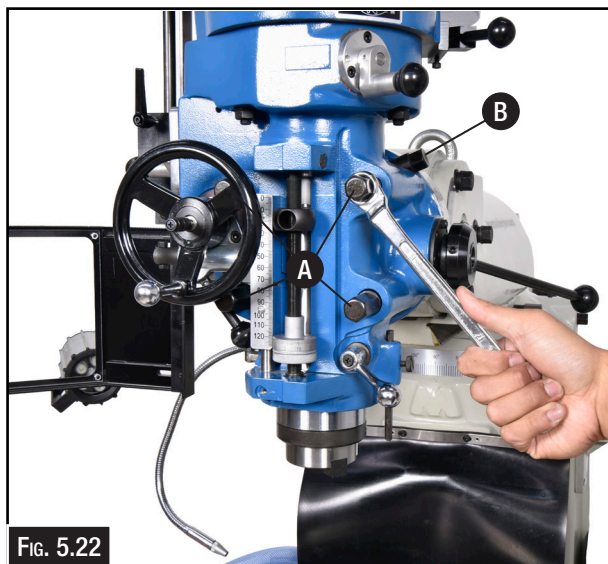

FIG. 5.22
3. Use one hand to apply pressure to head in the direction of rotation, then slowly turn rotation bolt "B" shown in Fig. 5.22 or 23.
NOTE: The lock bolts shown in Fig. 5.22, 24 are threaded into T-nuts that travel in a circular slot during head rotation. When rotating the head, it is possible for these T-nuts to jam in the slot preventing movement of head. If this happens, gently rotate each lock bolt, starting with the lower right, until you free up the jammed T-nut. Then continue to rotate head to desired position.